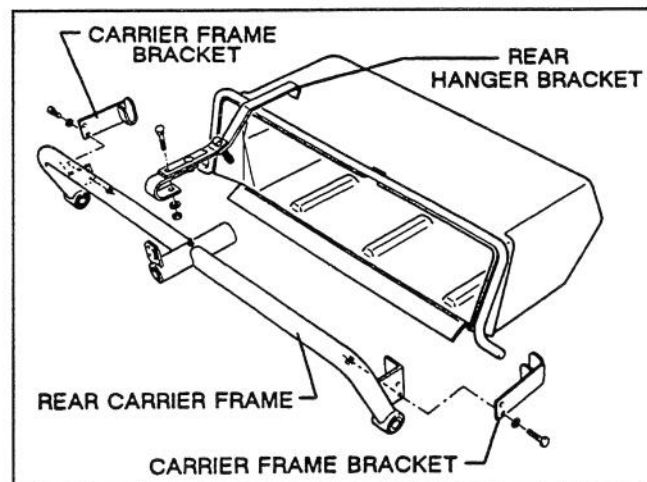

Figure 9
2. Position the rear hanger bracket "C" shaped clamp over the rear carrier frame (Fig. 9 & 10) on the right hand side of the carrier frame pivot. Secure 1/8" from the outside of the pivot tube with capscrews, flatwashers and locknuts. Position the other end of hanger bracket in basket cutout and hook over the basket support rod.